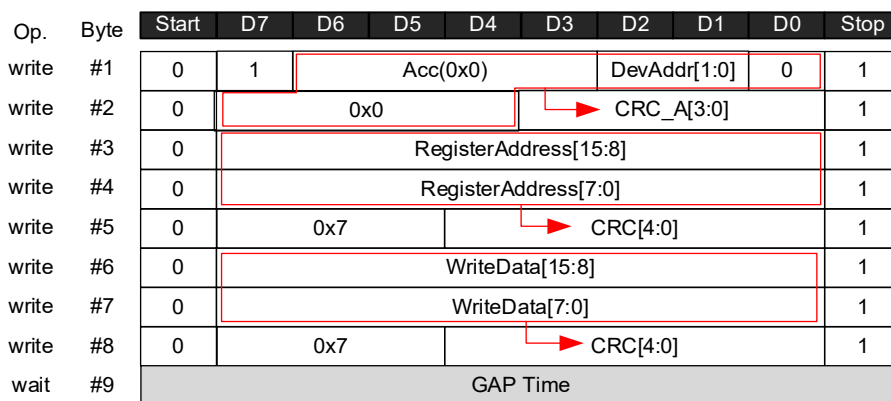

Figure 51. UART register write mode
- 16-bit register write (Figure 51)
Figure 51 shows the Write Frame structure where: